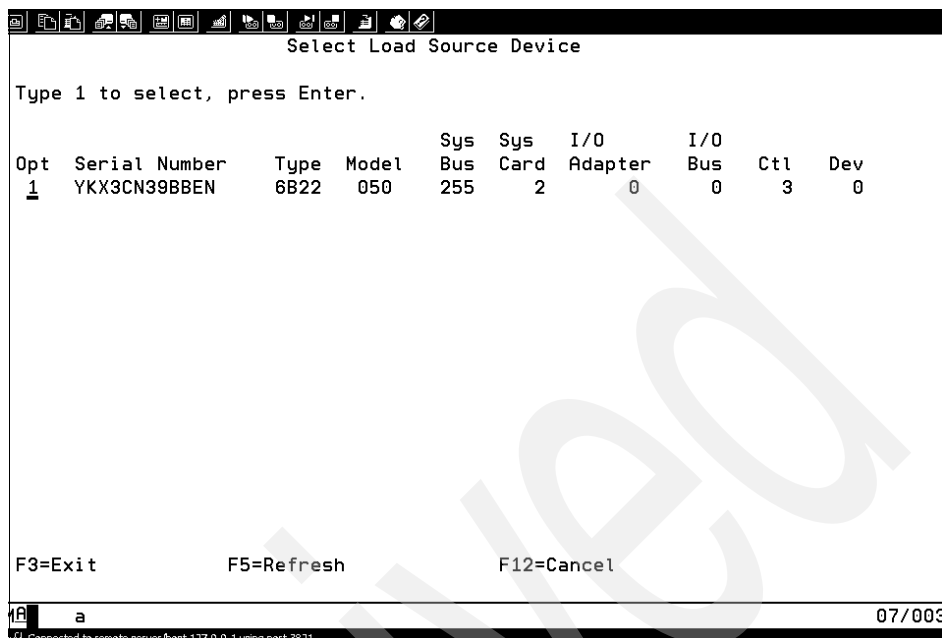

Figure 5-35 Select source disk
5. Now select the target install device. Move the cursor to the target device, type 1 and press **Enter**; see Figure 5-35 on page 254.